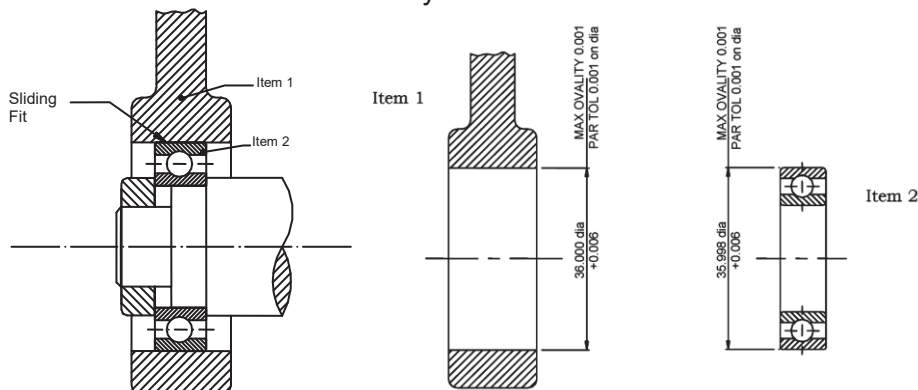

Figure 2
3. The following two components as shown in Figure 2 are to be assembled with a tolerance of fit  $+0.002 \pm 0.002$  mm. Design a selective assembly structure and justify the same. Is there any change in selective assembly structure, if the tolerance of fit is set to be  $+0.004 \pm 0.002$  mm? Justify the same.